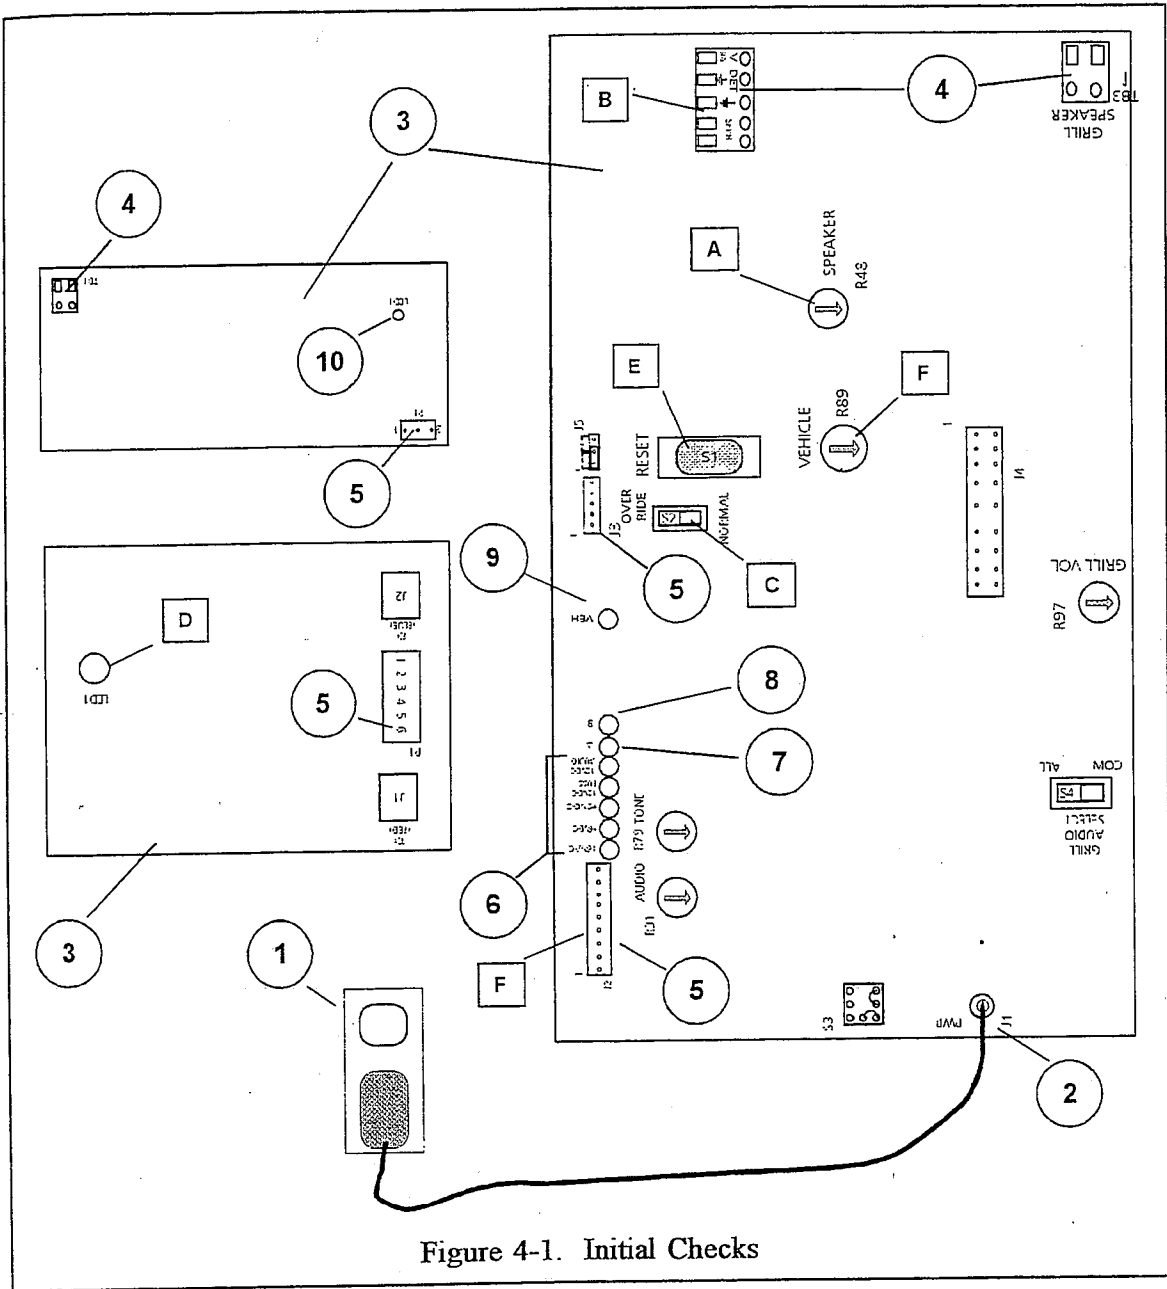

Figure 4-1. Initial Checks
- Second**        Perform the Initial Checks on page 4-2 and using figure 4-1.
Check the power supply indicators (figure 4-1 [6]).
If all lights are not lit, make sure the AC Adapter is plugged in at PWR (J1) connector on the Audio Board (figure 4-1 [2]).
Channel B light (figure 4-1 [8]) does not light when button B is pressed.
Channel A light (figure 4-1 [7]) does not light when button A is pressed.
Adjust SPEAKER Volume (figure 4-1 [A]) with a small screwdriver for sufficient volume. Turn CW to increase volume.
Check speaker wire connections to the terminal strip on the Audio Board and ASW2 Switcher board. See figure 4-1 [B].
2. Vehicle Detector Override Switch in OVERRIDE (see figure 4-1 [C]).
NO OUTBOUND sound - check the Outside SPEAKER Volume Control figure 4-1 [A].
4. Inspect audio wires at Audio Board - TB1 (figure 4-1 [B] and Speaker/Microphone connection at the speaker in the Menu Board. Remove shield wire at Audio Board (TB1-3) to see if signal is shorted to ground (figure 4-1 [B]).
When no vehicle is at speaker, press the RESET button (figure 4-1 [E]) on base station.
2. Vehicle detector failed, or J3 connector on the Audio Board (figure 4-1 [F]) or P1 connector on the vehicle detector board (figure 4-1 [5]) is loose. Place the vehicle detector OVERRIDE switch (figure 4-1 [C]) in the OVERRIDE position. In the OVERRIDE position, the audio loop remains open for communication with a customer. Check all cable connections; if loose, reconnect and return override switch to Normal. Call your authorized HME representative.
Verify white, green, and shield wires are connected to TB1 (figure 4-1 [B]) on the Audio Board and/or pins 1, 2, 5, and 6 on the Switcher Assembly (ASW 1 or ASW2).